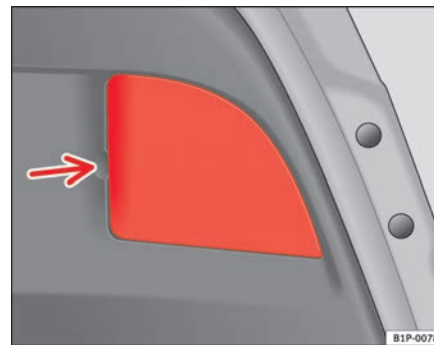

Fig. 171 Lights on the tailgate
- Pull the cover off. See the arrow => fig. 171.